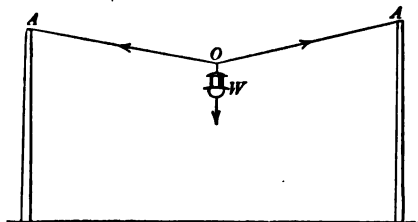

FIG. 110.—Three non-parallel forces.
**106. Three forces acting at a point.** In machines and other contrivances it often happens that forces which are not parallel balance each other and are thus in equilibrium. For example, suppose a street lamp is suspended over a street by a wire stretched between two posts, as shown in figure 110. We have here three non-parallel forces in equilibrium—first, the vertical pull  $OW$  due to the weight of the lamp; second, the pull exerted by one of the ropes; and third, the pull exerted by the other rope. We are to find what relation must exist between the magnitude and direction of any three such forces, if they are to produce equilibrium.